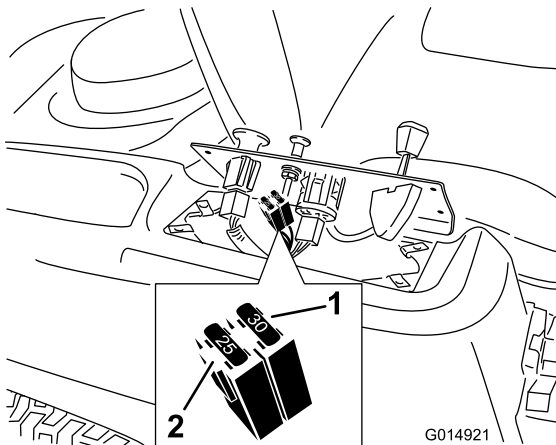

Figure 49
2. Lift the control pane up to access the main wiring harness and fuse block (Figure 49).
3. To replace a fuse, pull out on the fuse to remove it (Figure 49).